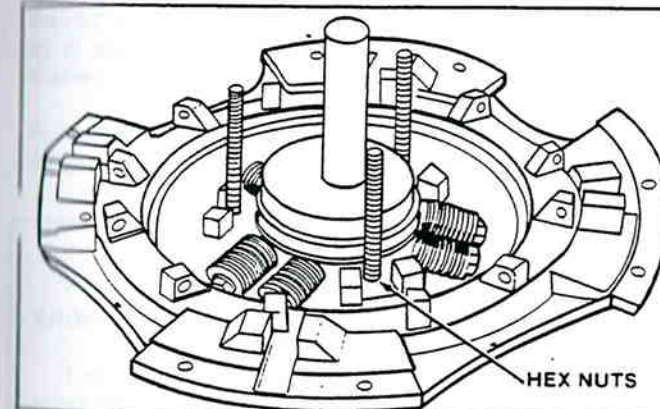

Figure 5-18. Depress Retainer.
5. Place flywheel ring and release sleeve retainer assembly on an arbor press and depress retainer until it bottoms against flywheel ring. Draw tightly three hex nuts on threaded rod against retainer (figure 5-18).